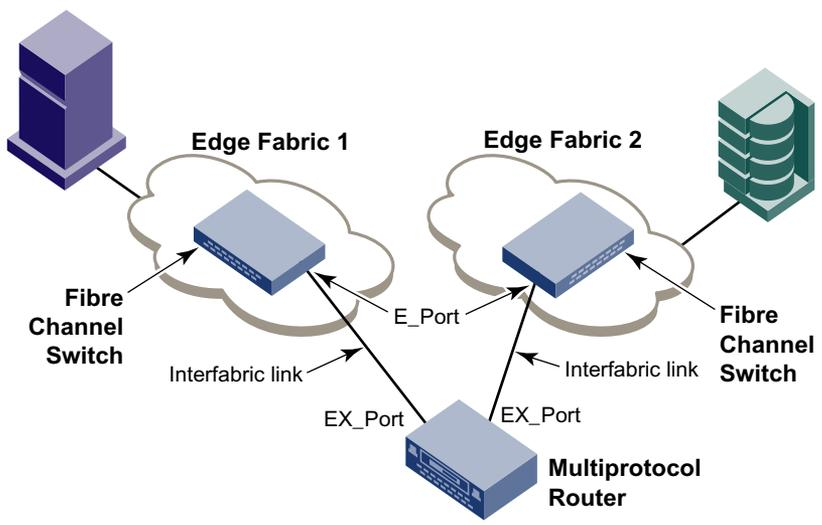
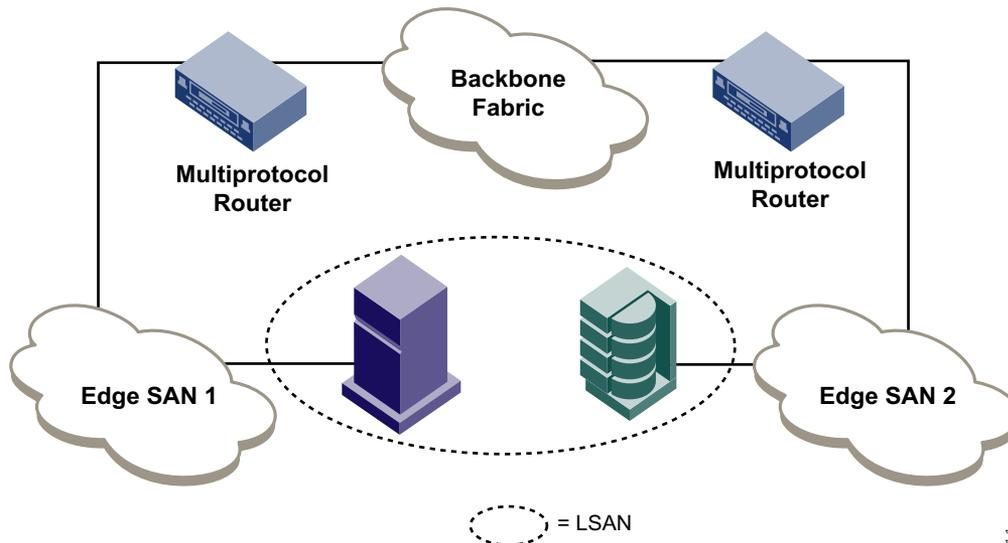

Figure 4 Meta-SAN with interfabric links
Figure 5 Edge SANs connected through a backbone fabric
FC-FC routing introduces the following concepts (see Figure 3, Figure 4 on page 46, and Figure 5 on page 47):
- A special type of port, called an *EX_Port*, functions somewhat like an *E_Port* but terminates at the router and does not propagate fabric services or routing topology information from one edge fabric to another. The link between an *E_Port* and an *EX_Port* is called an *interfabric link* (IFL). You can configure multiple IFLs from one MP Router, from additional MP Routers, or from both. (See Figure 4 on page 46.)
- MP Routers can also connect edge fabrics using a *backbone fabric*—similar to a TCP/IP backbone network. A backbone fabric consists of at least one MP Router, and possibly a number of Fabric OS-based Fibre Channel switches. It provides transport but is otherwise transparent to the hosts, targets, and LSANs. A fabric cannot be both a backbone fabric and an edge fabric. (See Figure 5 on page 47.)
Figure 4 shows a meta-SAN consisting of two edge fabrics connected through an MP Router with interfabric links.
Figure 5 shows another meta-SAN consisting of a host in Edge SAN 1 connecting to storage in Edge SAN 2 through a backbone fabric connecting two MP Routers.
Zones are locally defined. Names and memberships, with the exception of hosts and targets exported from one fabric to another, do not need to be coordinated between the edge fabrics. For example, in Figure 5 on page 47, when the zones for Edge SAN 1 are defined, you do not need to consider the zones in Edge SAN 2, and vice versa.